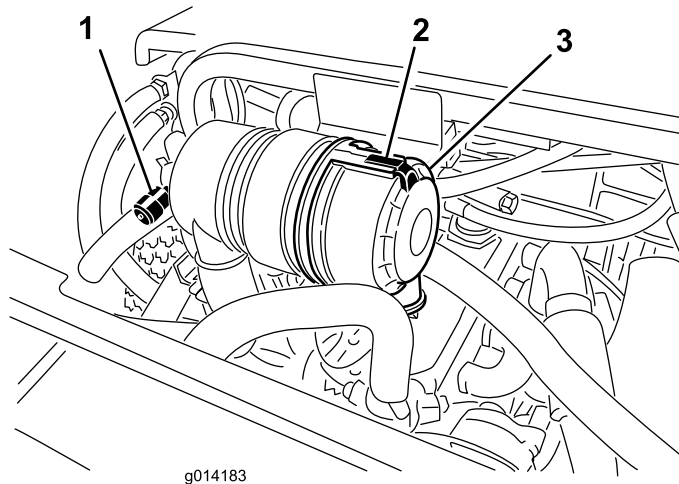

Figure 34
Service the air cleaner filter only when the service indicator (Figure 34) requires it. Changing the air filter before it is necessary only increases the chance of dirt entering the engine when the filter is removed.
1. Release the latch securing the air cleaner cover to the air cleaner body (Figure 34).